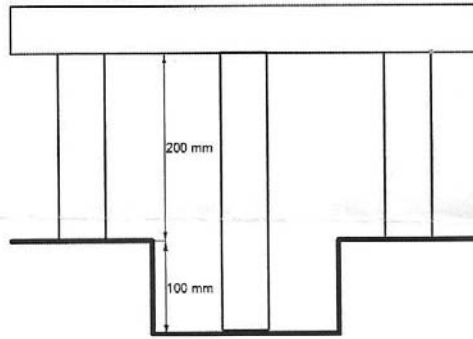

Figure 2a
- 2 a. Two copper rods and one steel rod (center) together support a load as shown in figure 2a. Cross-sectional area of each rod is 900mm^2 . If the stresses in copper and steel are not to exceed 50 MPa and 100 MPa respectively, find the safe load that can be supported. Young's modulus of the steel is twice that of copper. (8)